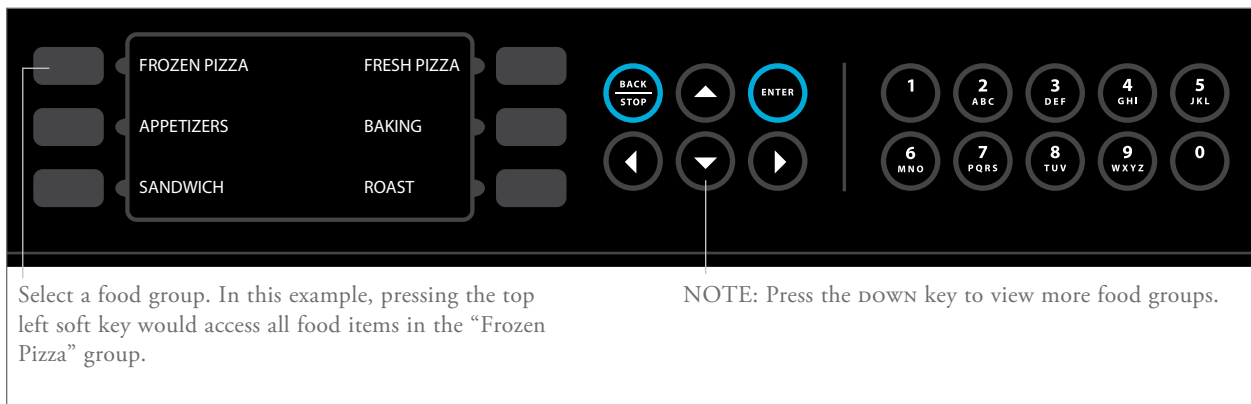

FIGURE 9: Selecting a Food Group
4. Select a food group (Figure 9).